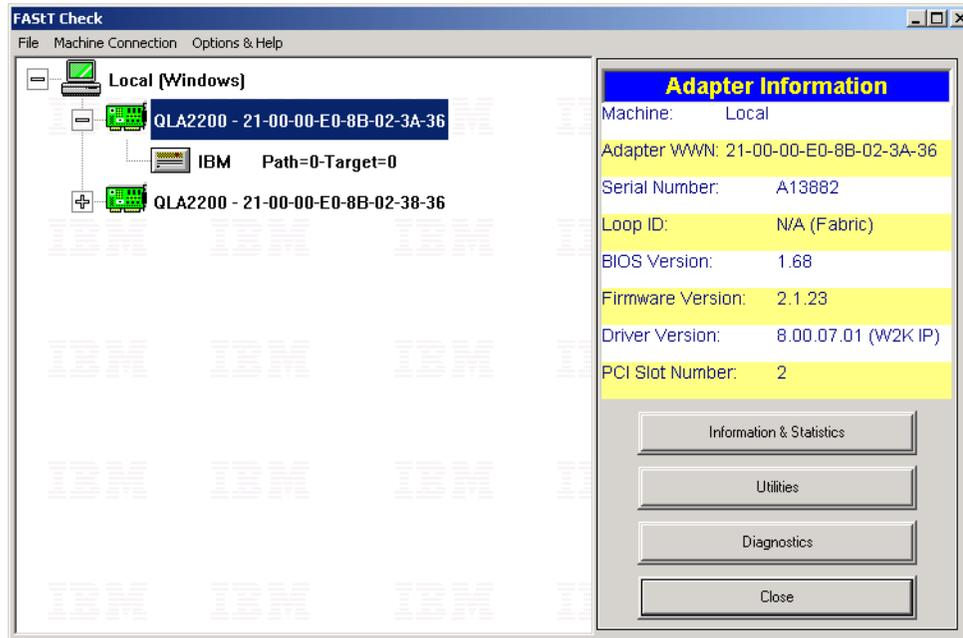

Figure 3-12 WWN and slot details
3. The next window displays the FASTT Host Adapters that are installed in our xSeries server, as shown in Figure 3-12: